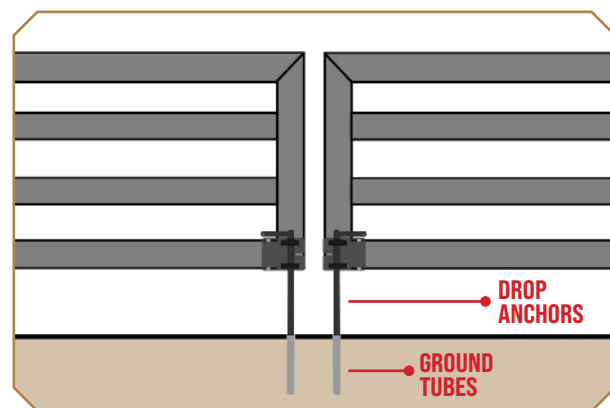

Figure 3
6. The drop tubes with handles are made extra long for various terrain issues. Cut the bottom of the drop handle tube off to suit your ground tube position (Figure 3).